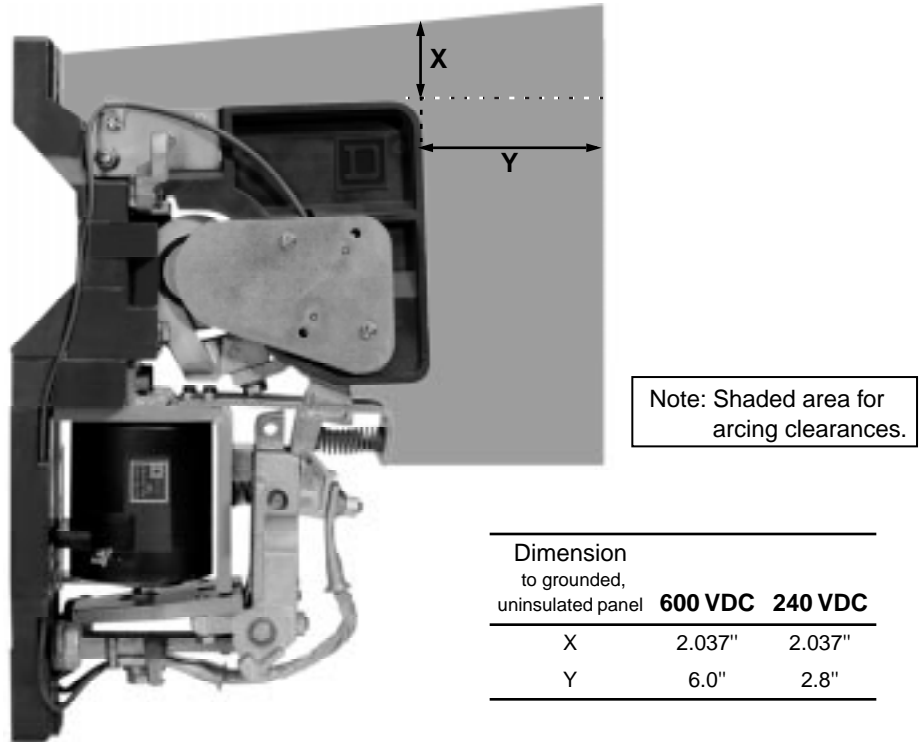

Figure 1: Electrical Clearances
2. Inspect nameplate data for correct equipment. Visually verify that the contactor operating coil (item 36) is the correct voltage. The operating coil circuit voltage may be different than the power circuit voltage.
4. Mount the contactor vertically on a rigid support and fasten it down tightly using a plain washer against the contactor base. Provide the clearances shown in Figure 1 on page 3 above the top of the contactor and in front of the arc chute for pivoting or removal of the arc chute and for electrical clearances.
6. With all power removed, pivot the arc chute upwards. The contact tips (item 10) should meet squarely. If they do not meet squarely, align them by the procedure in "Contact Tip Alignment" on page 4.